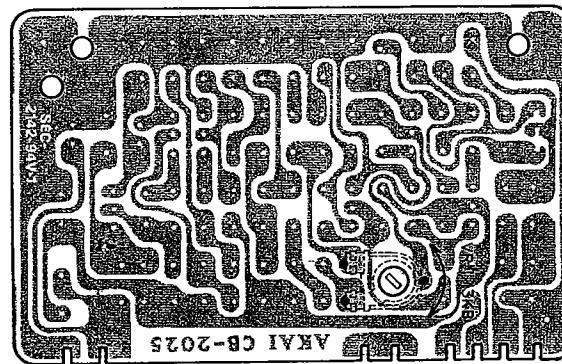

Fig. 13 Servo P.C Board CB-2025
11. TAPE SPEED ADJUSTMENT (Refer to Fig. 13)
Playback a 1,000 Hz pre-recorded test tape and adjust Servo P.C Board (CB-2025) semi-fixed resistor VR1, 3 kB shown in Fig. 13 to obtain a tape speed of 1,000 Hz $\pm 0.5\%$.